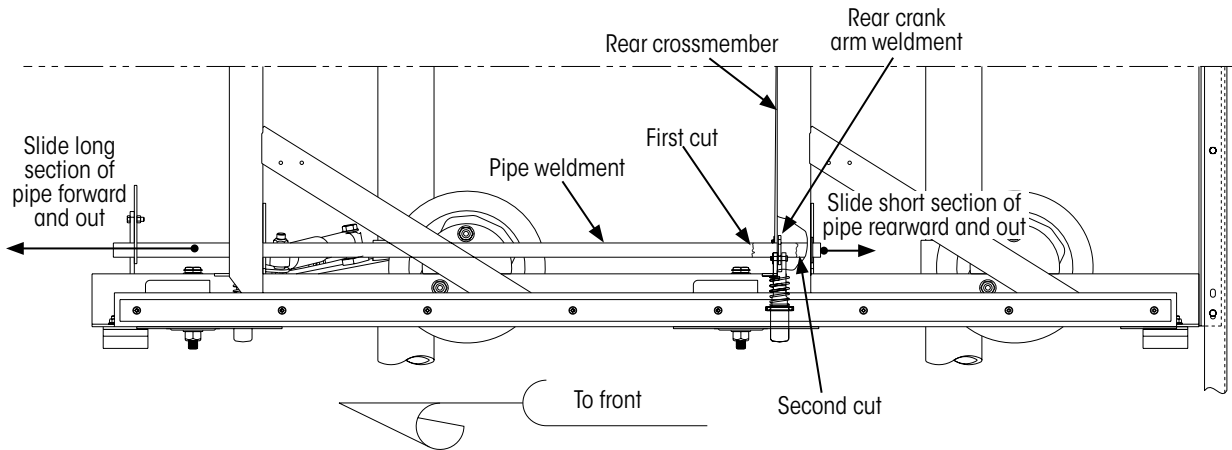

Figure 10: Removing pipe weldment
1. **Cut** the pipe weldment in half directly in front of the rear crank arm weldment (Figure 10 on page 9).
2. **Remove** the long front section of pipe weldment by pulling it out from the front of the slider assembly (Figure 10).
3. **Cut** the pipe weldment in half again, this time between the rear crank arm weldment and the rear crossmember (Figure 10).
4. **Remove** the short section of pipe weldment by pulling it out from the rear of the slider assembly (Figure 10).